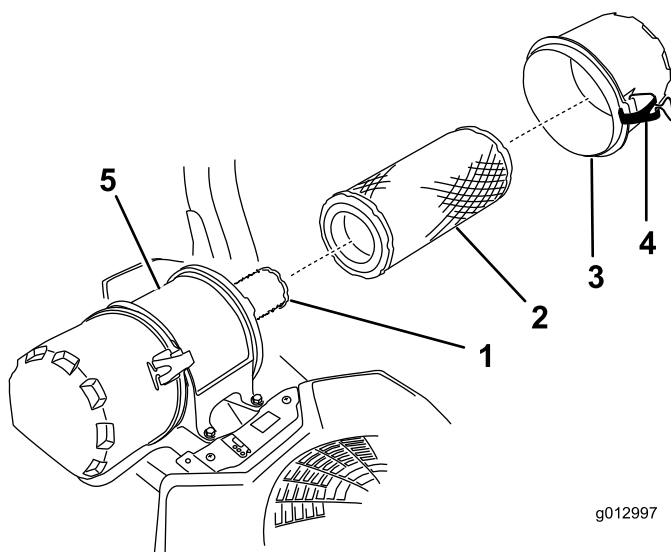

Figure 47
6. Release the latches on the air cleaner and pull the air-cleaner cover off the air-cleaner body (Figure 47).
8. Gently slide the primary filter out of the air-cleaner body (Figure 47).
2. If you are replacing the inner filter, carefully slide it into the filter body (Figure 47).
3. Carefully slide the primary filter over the safety filter (Figure 47).
4. Install the air-cleaner cover and secure the latches (Figure 47).